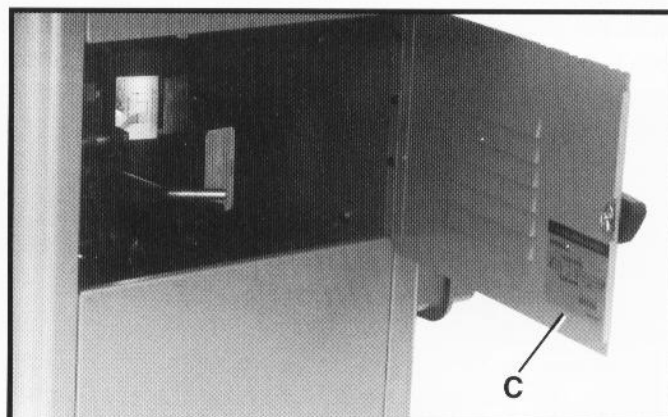

Fig. 21
A chart illustrating the correct belt placement for 7,000 or 10,000 R.P.M. is located on the inside panel of the motor access door as shown in (C) Fig. 21.
1. Disconnect the machine from the power source and open motor access door, as shown in Fig. 21.